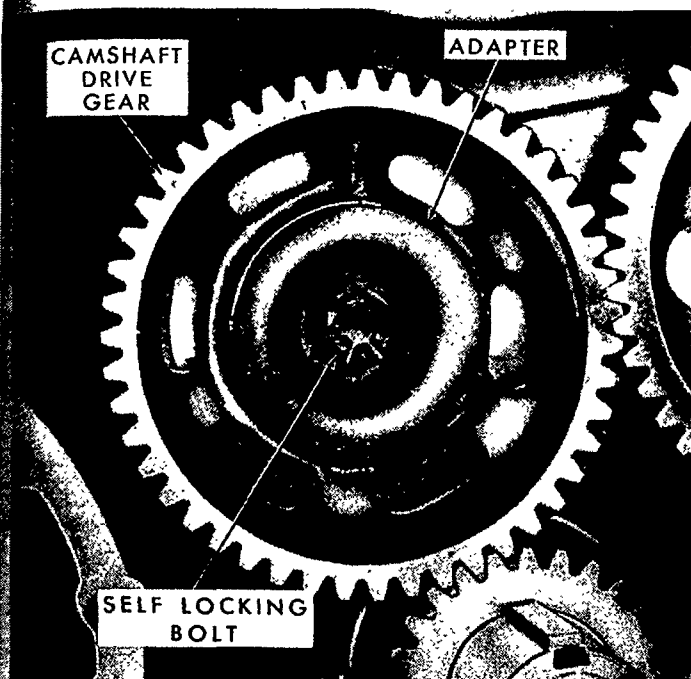

Figure 30
1. Remove the self-locking bolt that retains the camshaft drive gear and adapter to the cylinder block, Figure 30.